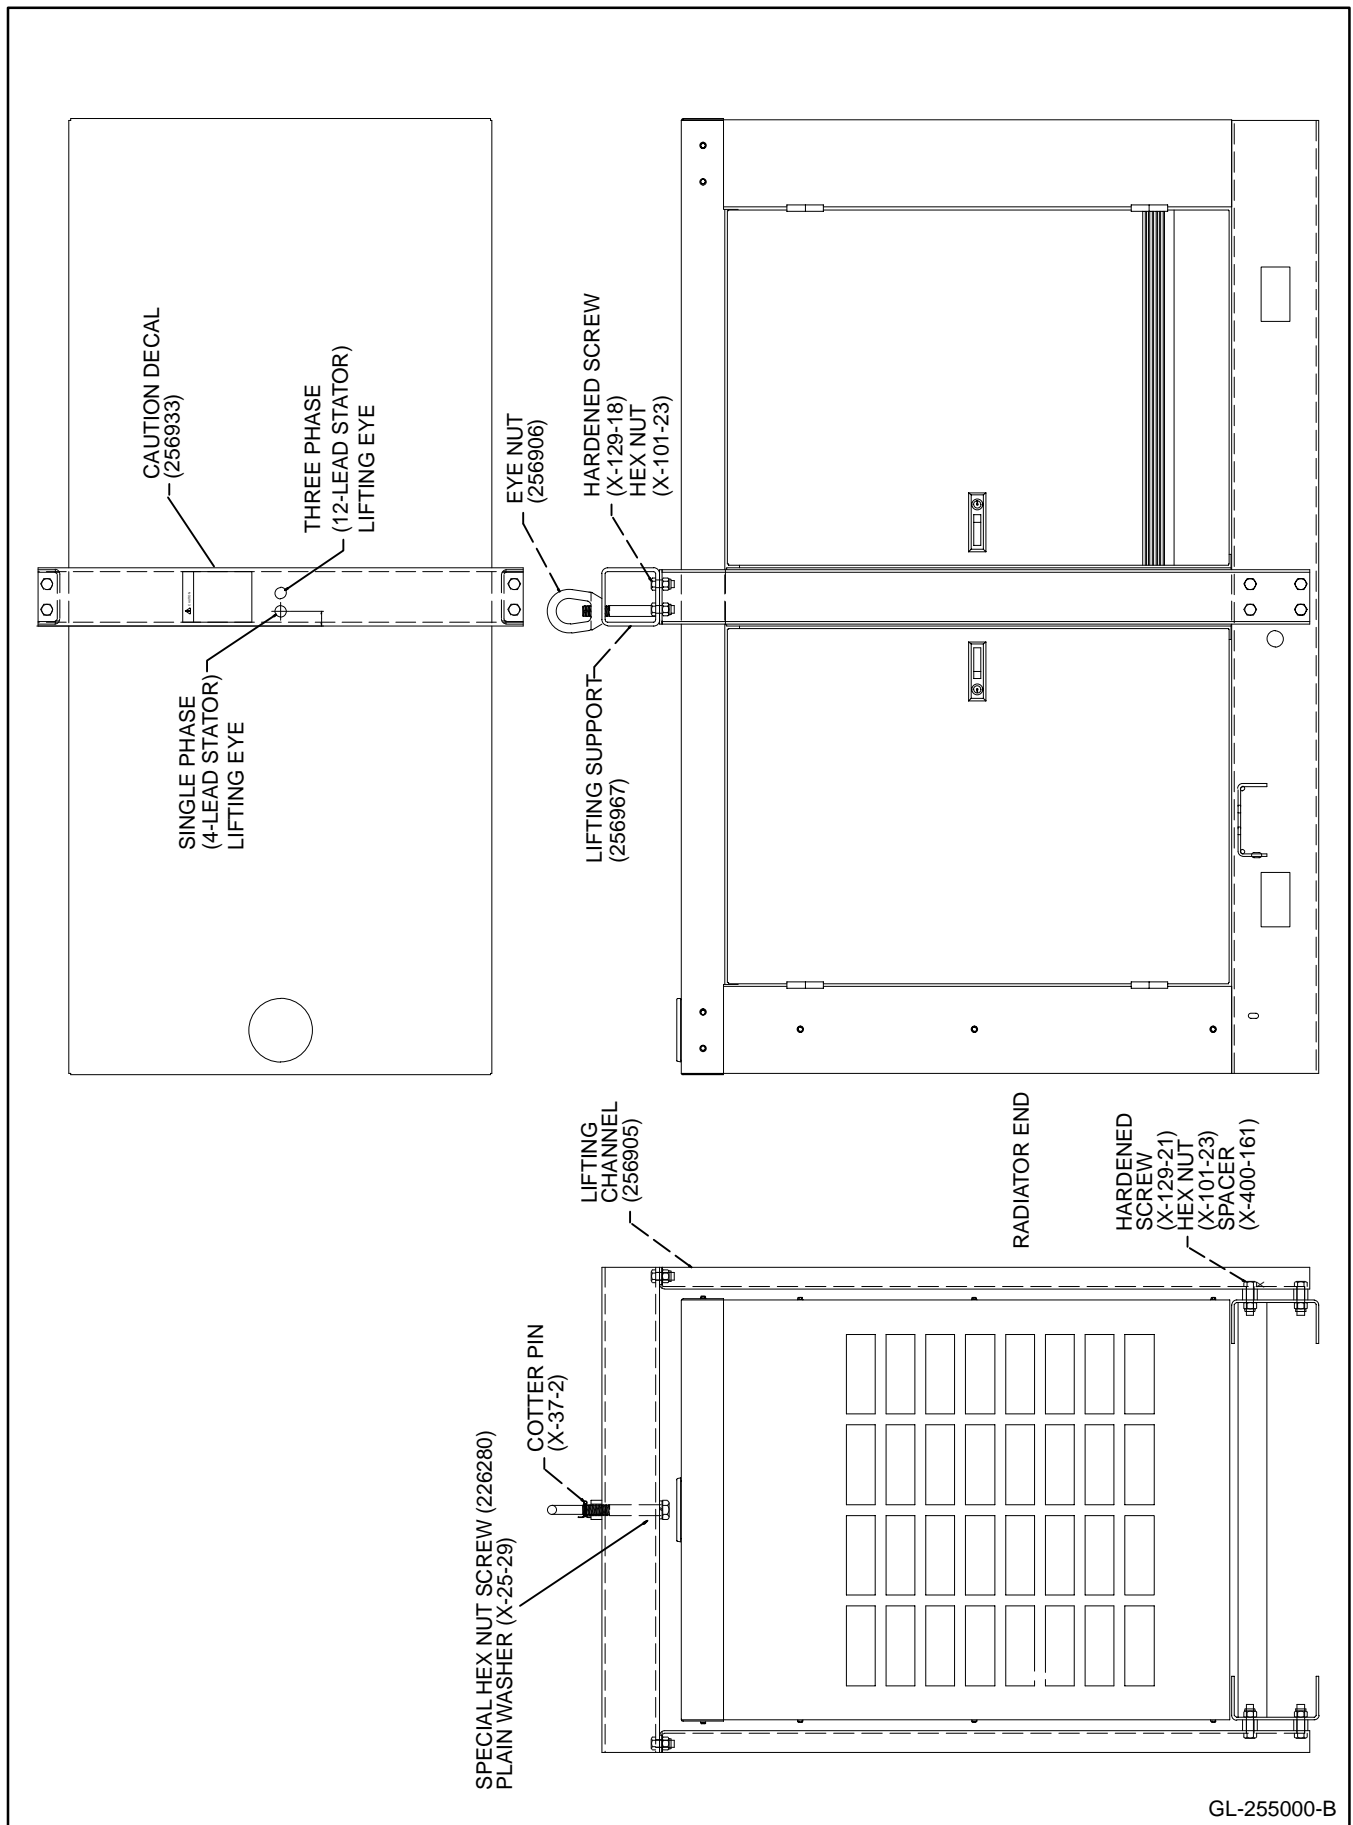

Figure 1. Lifting Eye Kit
3. Open access doors. Attach the lifting channel (256905) to base with four 1/2-13 x 2.00-in. hardened screws (X-129-21), spacers (X-400-161), and hex nuts (X-101-23) on each side of the weather housing as shown in Figure 1. Torque all fasteners to 54 ft. lbs. (73 Nm). Close access doors.